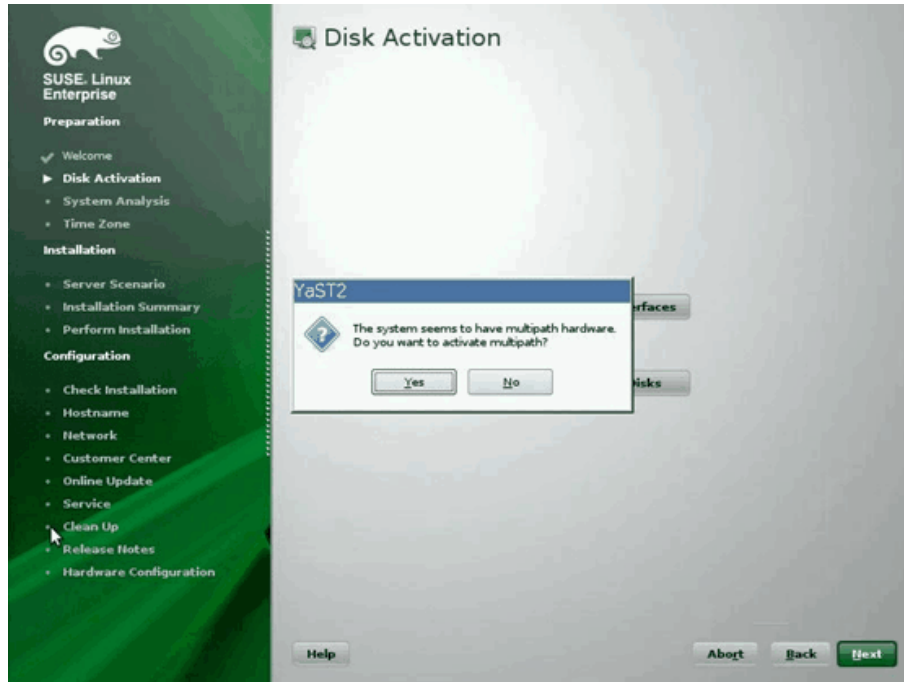

Figure 13-18. Disk Activation
10. YaST2 prompts you to activate multipath. Answer as appropriate (Figure 13-18).